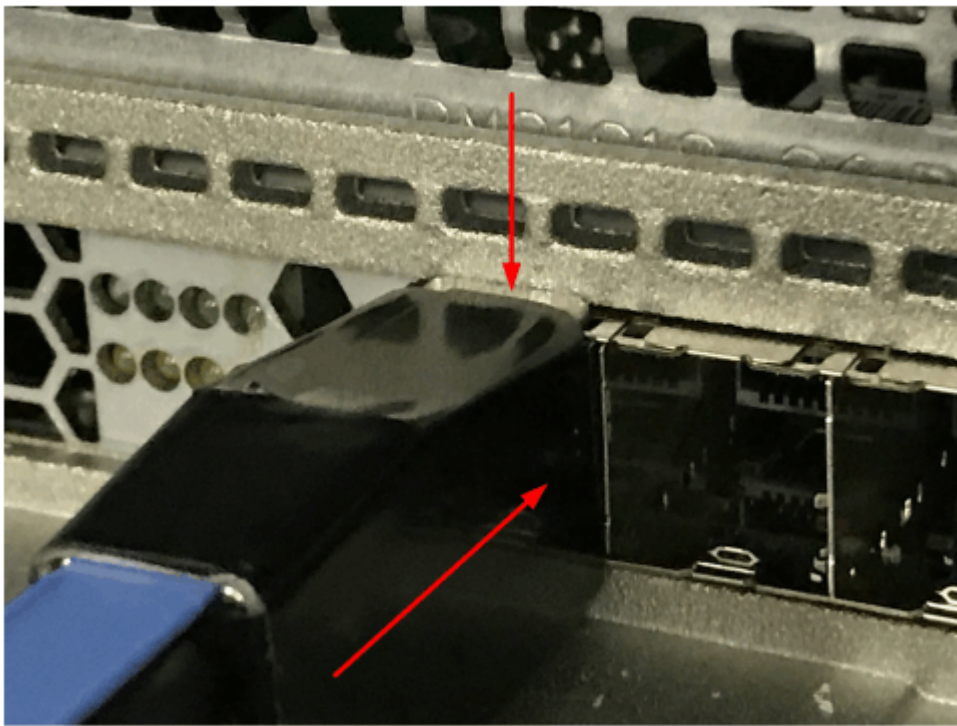

Figure 59. Pushing the SAS cable latch closed
- Insert the connector gently until it clicks into place. If you feel resistance, the connector is probably oriented the wrong way. Do not force it. See Figure 59 on page 98.